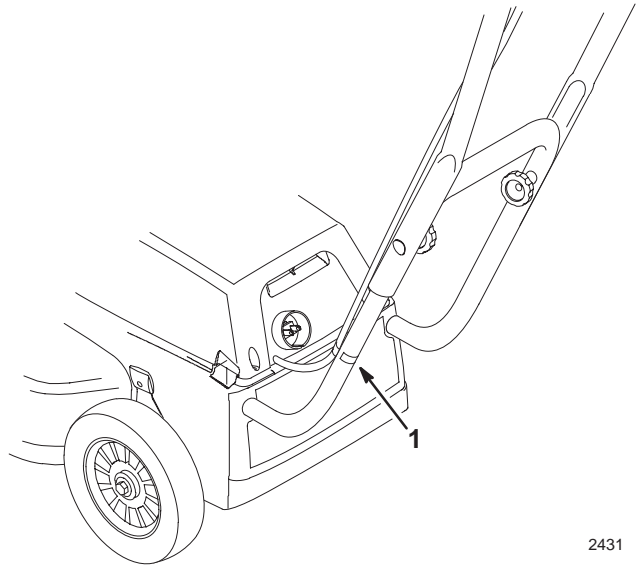

Figure 5
4. If handles are in highest height position, use clip to attach cable to left side of lower handle tube (Fig. 5).